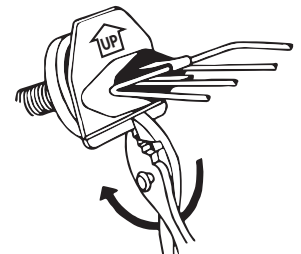

FIGURE 4
- a) If the bottom of the plastic plate is bumping into the bottom of the tank surface and preventing the de-icer from laying flush against the drain hole-snap the plastic strip off along the groove as shown in figure 4. If breaking this strip was necessary then you must also take a knife and cut the overlapping piece of gasket.